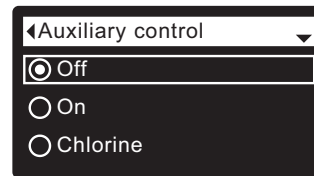

FIG. 95
7. Press the SELECT (O) button to display the Auxiliary control menu (See Figure 95).
8. If the desired option already has a dot next to it (See Figure 95), go to Step 9. Otherwise, press the DOWN (▼) or UP (▲) buttons to scroll to the desired option, then press SELECT (O) to choose it.